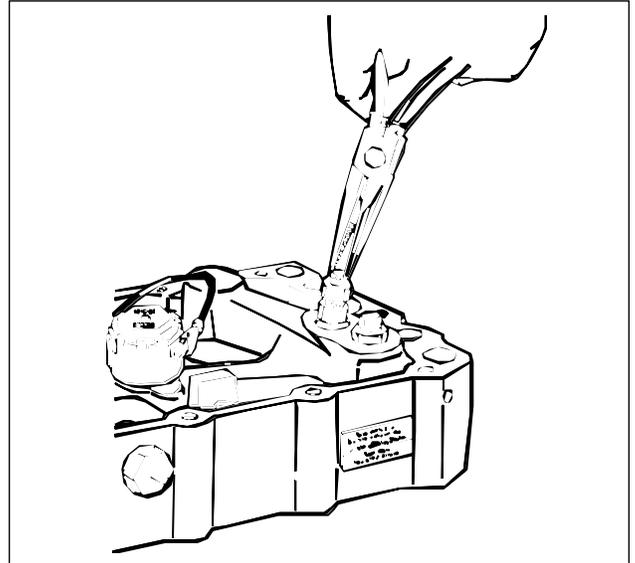

FIG. 15
3. Using needle-nose pliers, remove the control valve (see Fig. 15).